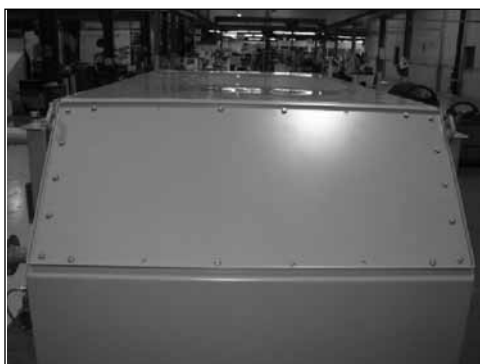

Figure 6-6
- a. Remove the angled cover from the drive end (Figure 6-6)